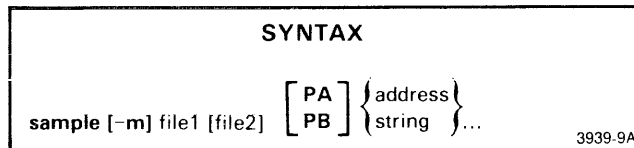

Fig. 3-1. Sample syntax block.
The syntax block for each command illustrates the command entry: the command name, whether or not each part of the command entry must be included, and the order in which to enter parts of the command entry. Figure 3-1 illustrates a sample syntax block.
A command modifier (a special type of parameter) consists of a dash (-) followed by a letter. Figure 3-1 contains the command modifier **-m**.
**Required Parameters.** Required single parameters appear in the command line without braces or brackets. In Fig. 3-1, **file1** is a required parameter.
**Optional Parameters.** Optional parameters are enclosed in brackets [ ] in the syntax block. In Fig. 3-1, **file2** is an optional parameter.
**Choice of Parameters.** Parameters are stacked one above another when there is a choice between two or more parameters. If the parameters are stacked within braces { }, one of the parameters **must** be used. In Fig. 3-1, either **address** or **string** must be chosen. If the parameters are stacked within brackets [ ], the selection is optional. In Fig. 3-1, you may select either **PA** or **PB** or neither.
**Repeated Parameters.** When three dots follow a parameter (or a group of parameters enclosed in brackets or braces), the parameter may be repeated any number of times up to the end of the command line. In Fig. 3-1, the choice of **address** or **string** may be repeated as many times as the line length permits.
Here are some examples of how the fictitious SAMPLE command (shown in Fig. 3-1) could be used: